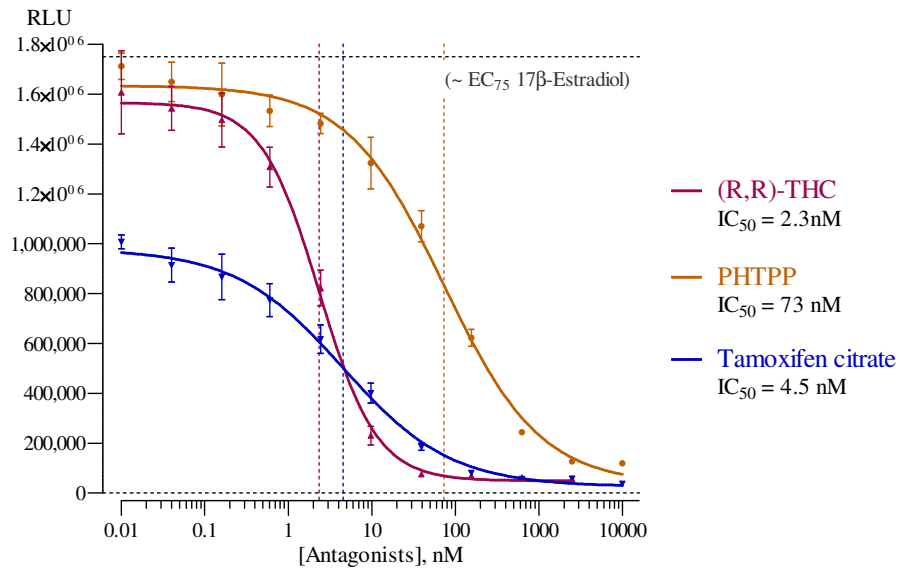

Figure 3. Human ER β antagonist-mode Assays
- *Optional*: antagonist reference compound (refer to Fig 3)